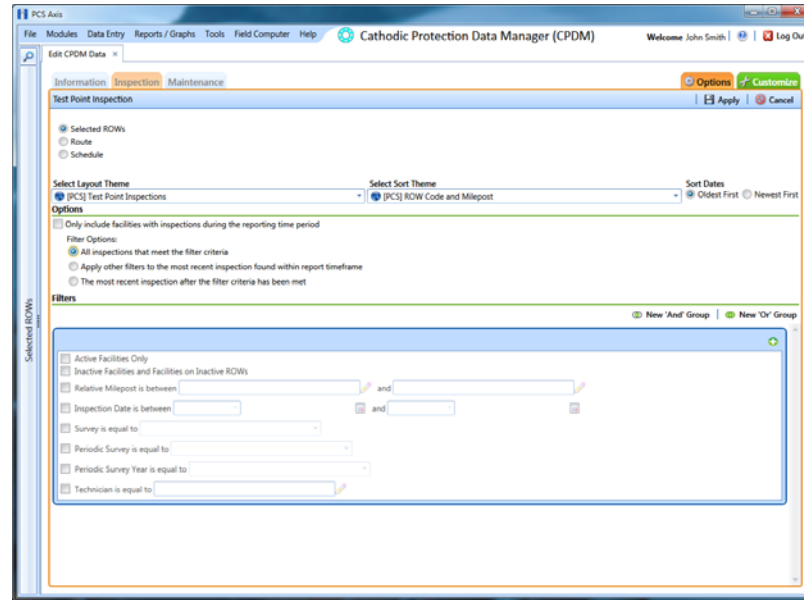

Figure 7-17. Options
- 6 Click  **Save**, then click the **Options** tab  to open the options page (Figure 7-17, page 301).